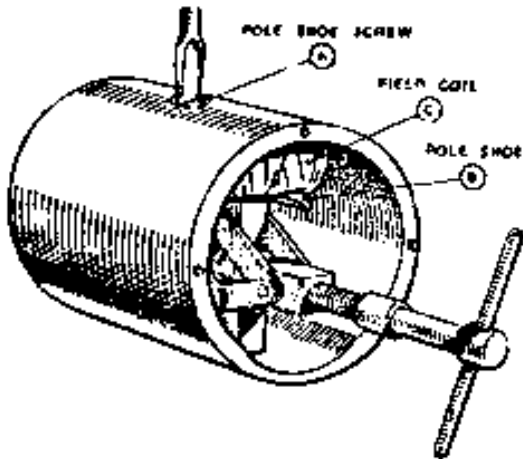

Fig. 62. Pole shoe and field coil assembly.
- (c) Unscrew the pole shoe retaining screw (A, Fig. 62) by means of the wheel operated screwdriver.
- (d) Draw the pole shoe (B) and field coil (C) out of the yoke and lift off the coil.